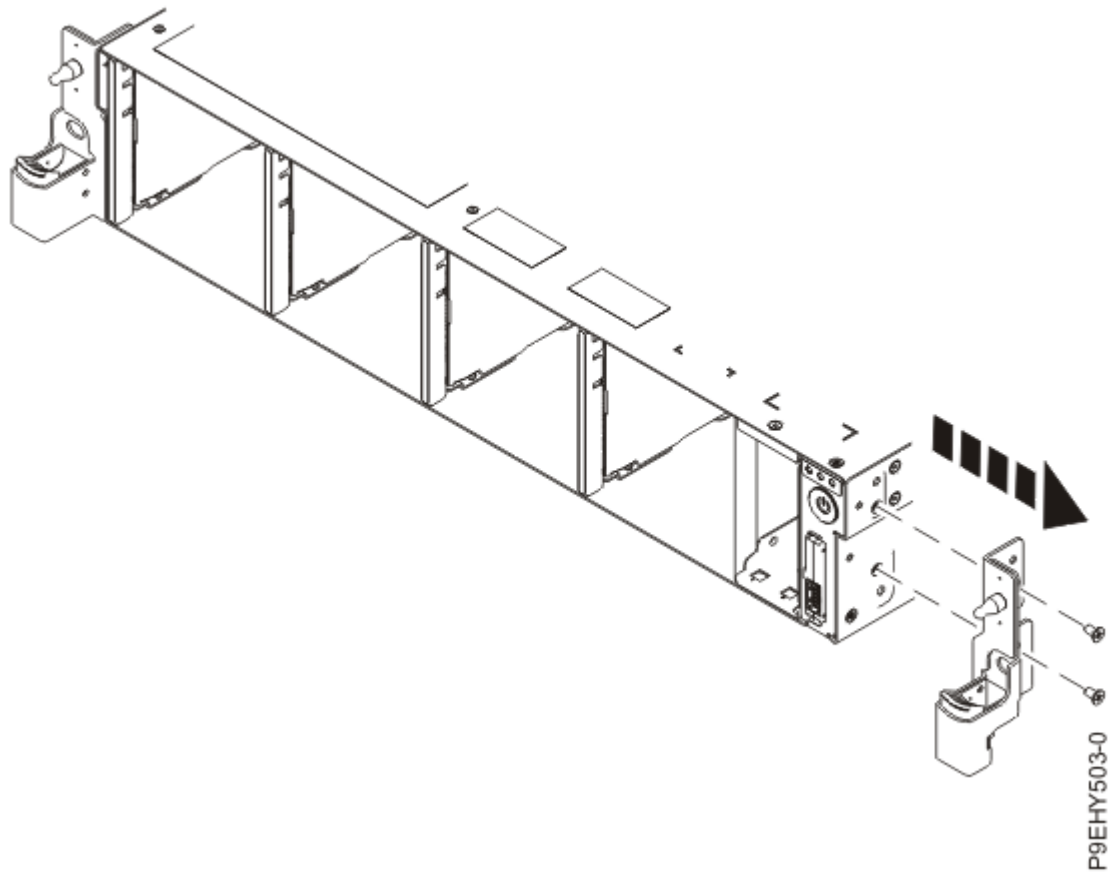

Figure 104. Removing the rack installation support
6. Remove the rack installation support from the side of the system as shown in Figure 104 on page 118.